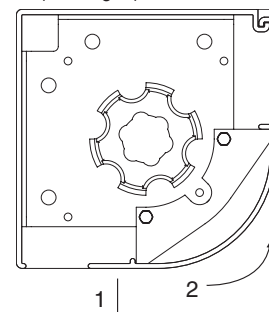

Figure 5
- ① Remove headbox cover (see Fig. 5).